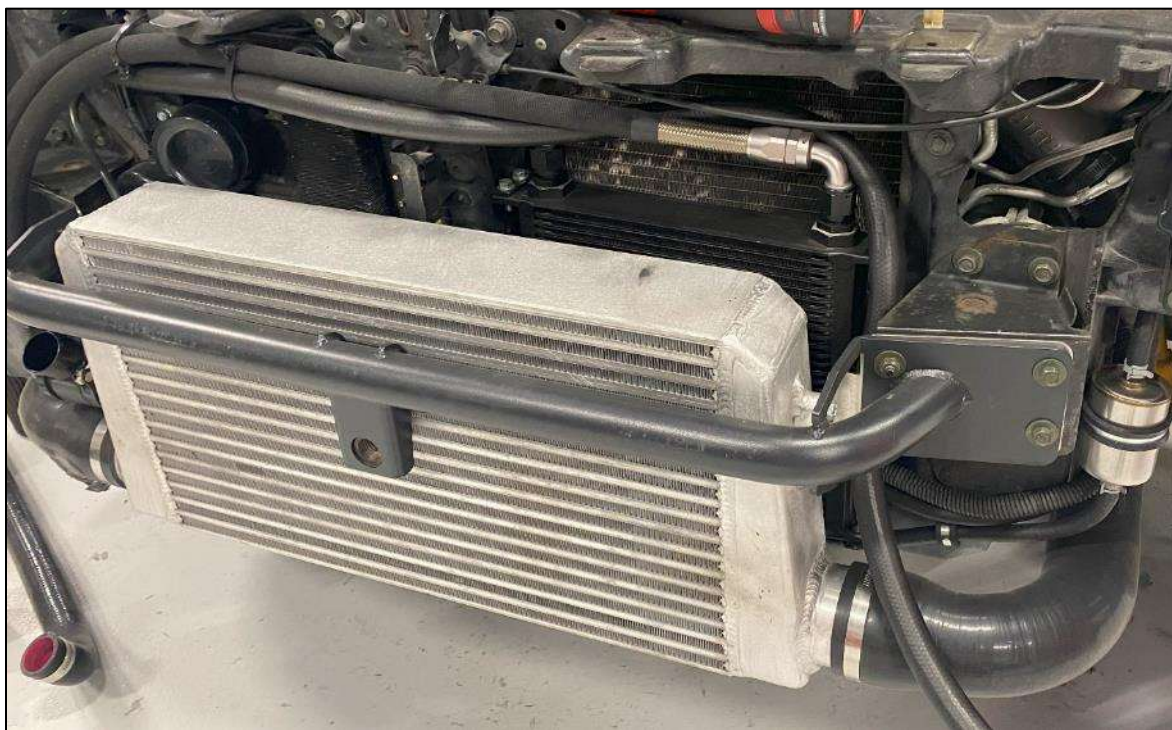

Figure 80
3. Loosely install the Intercooler Brackets onto the Intercooler with the (4) four M8 Flanged Button Head Bolts.
5. While holding the Intercooler in place, position the Z1 Bash Bar onto the studs on the frame rails. Secure the Bash Bar and Intercooler to the vehicle with the (4) four nuts and (4) four bolts removed in *Step 12 of Section 1: Disassembly*. Torque to **16 ft-lbs**. *Figure 80*.